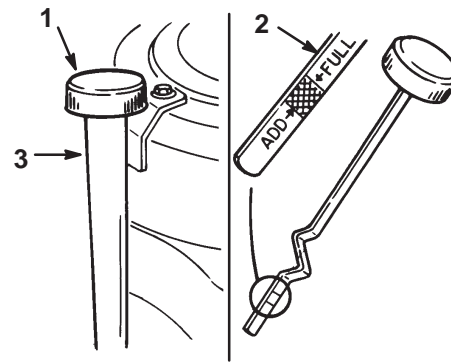

Figure 30
2. Clean around the oil dipstick (Fig. 30) so dirt cannot fall into the filler hole and damage the engine.
3. Unscrew the oil dipstick and wipe the metal end clean (Fig. 30).
4. Slide the oil dipstick fully into the filler tube, do not thread onto tube (Fig. 30). Pull the dipstick out and look at the metal end. If oil level is low, slowly pour only enough oil into the filler tube to raise the level to the full mark.
7. Slowly pour approximately 80% of the specified oil into the filler cap (Fig. 30). Refer to Servicing the Engine Oil, page 28.